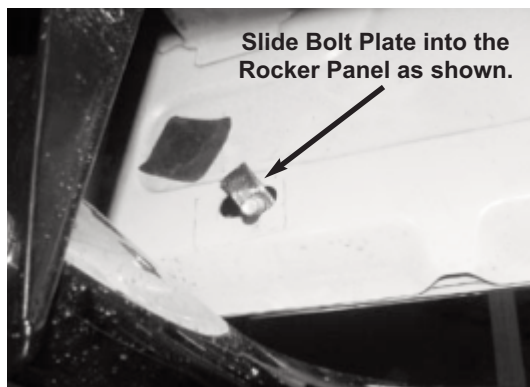

Figure 3 - Rear Bolt Plate
Attach the front support straps by installing the bolt plate into the rocker panel using (1) M10 flat washer/lock washer and M10 hex nut. Attach the other end of the support strap to the front brackets using the (1) M10 bolt, (2) M10 flat washer, (1) M10 lock washer and (1) M10 hex nut. (See Figure 3, 5)
7. Attach the step bars to the front and rear brackets using (1) 1/2" - 13 x 2" bolt, (1) 1/2" flat washer/lock washer per bracket, and hand tighten. Torque M12 bolts first to 50 ft/lbs. 1/2" to 55 ft lbs and M10 to 30-35 ft lbs